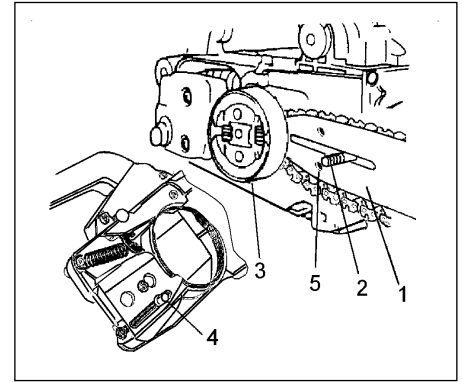

Fig.1-2
3. Install the chain bar (1) onto the bolts (2), then push it toward the sprocket (3) as far as it will go. Make sure that the boss of chain tension adjust bolt (4) fits into the hole of the bar (5). (Fig.1-2)